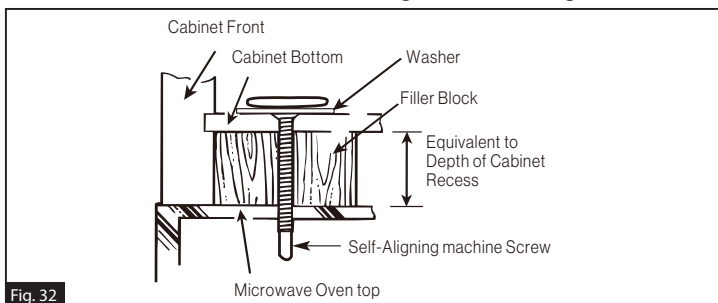

Fig. 32
3. The Filler Block is only used for recessed cabinet and front overhang cabinet (see the type of the cabinet on page 4 & 5). you should place the Filler Block to the cabinet bottom before installing the oven. (Fig. 32)